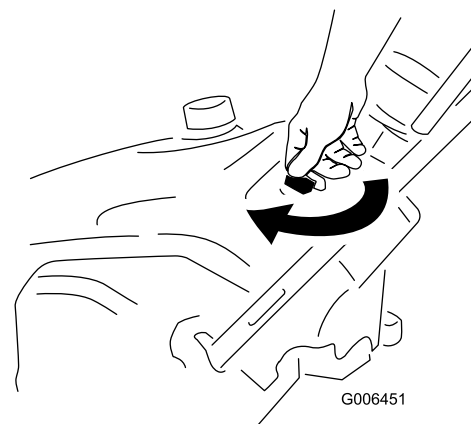

Figure 10
1. Turn the ignition key clockwise to the On position (Figure 10).